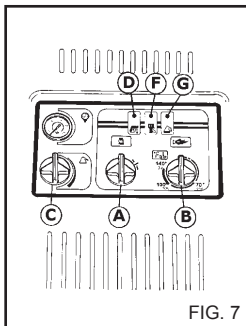

FIG. 7
Turn the thermostat knob "B" (fig. 7) to steam position to obtain an increase in the temperature of the water at delivery. At work temperatures higher than 95°C (203°F), the work pressure must be ≤ 32 bar (460 PSI).
**When you have finished using the "Steam Phase", turn the thermostat knob "B" to position "0" (fig. 7) and let the machine cool down for about 3 minutes with the gun turned on.**